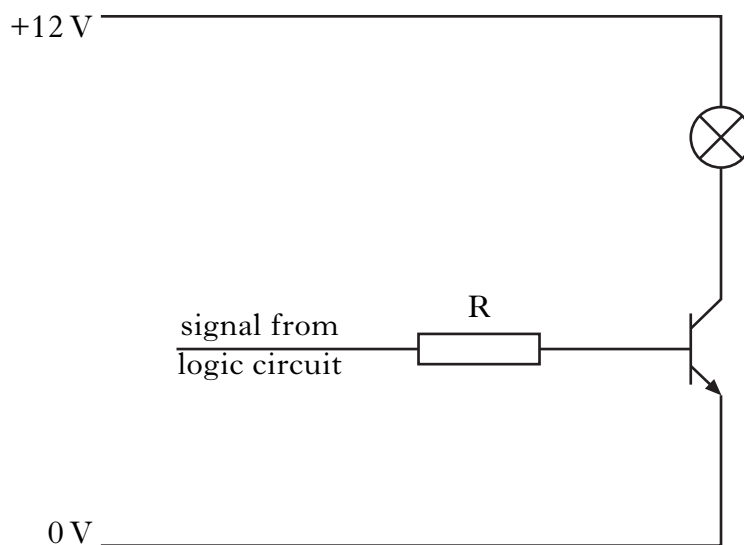

Figure Q4
4. A signal from a logic circuit controls the operation of a 12 V lamp by means of the transistor driver shown in Figure Q4.